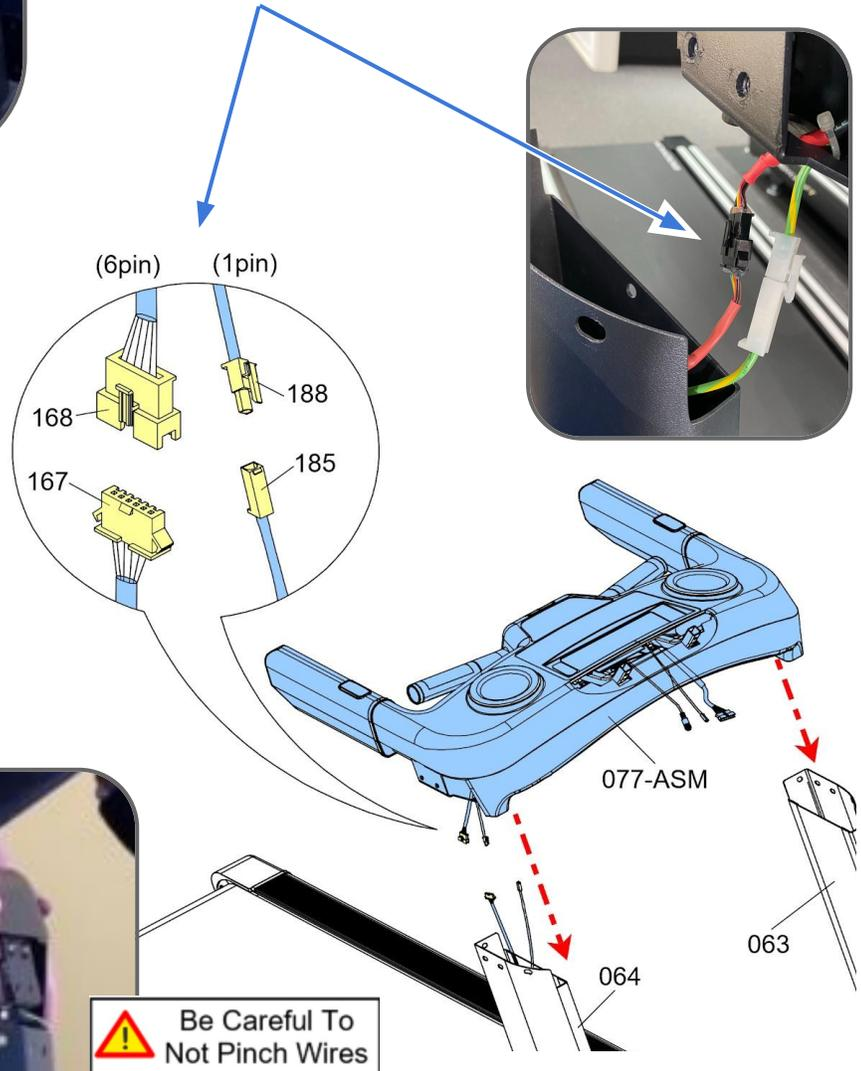

Fig. 7
- b. Then connect the following cables from the Dashboard Assembly (077-ASM) - Right Side to the Upright Post - Right (064):
- c. After both cables are connected, confirm they are fully locked together. Then lift up the Dashboard Assembly and GENTLY slide into both the Right & Left Sides of the Upright Tubes. See pic on Fig. 7.